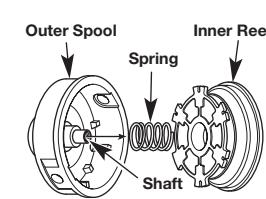

Fig. 11
- Remove the inner reel from the outer spool (Fig. 11).
- Remove the spring from the inner reel (Fig. 11).